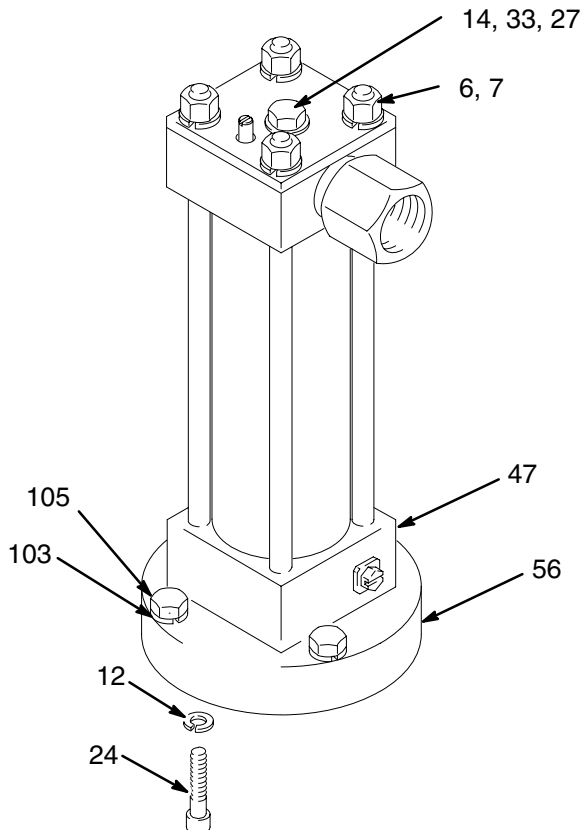

Fig. 6
1. Loosen both nuts on the inlet tube (57). Use a wrench to rotate the tube fittings (16, 17) to the side, and then remove the tube (57). Install plugs in the fittings to prevent contamination. *See the Parts Drawing on page 20.*
2. Remove the capscrew (14), nuts (7) and lock washers (6) on top of the reciprocator. *See Fig. 6.*
3. Remove the four capscrews (24) and the retainer housing (56). Tap the retainer housing with a plastic mallet to loosen it and pull it off the bottom cap (47). *See Fig. 6.* If needed, replace the throat seals as described on page 11.